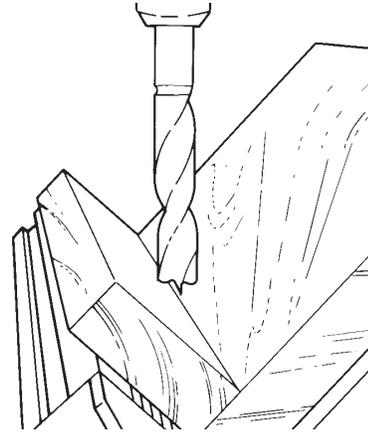
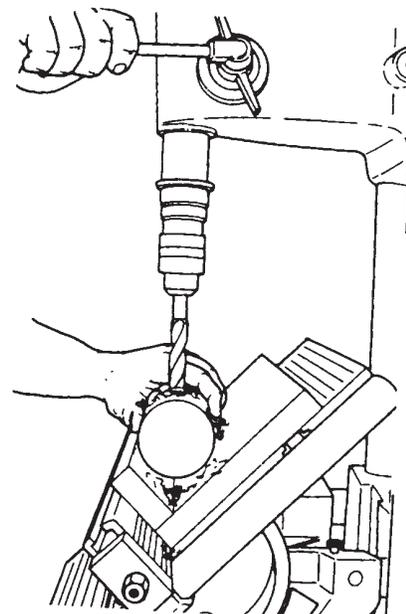

Figure D-29
Figure D-30
3. Extend the quill so that the drill bit just touches the 'V.' With the table height crank, move the table so that the pilot of the drill bit points to the bottom of the "V." See Figure D-29. Lock the table. Place the stock in the "V" and set the depth control. Drill the hole, holding the stock down firmly. See Figure D-30.